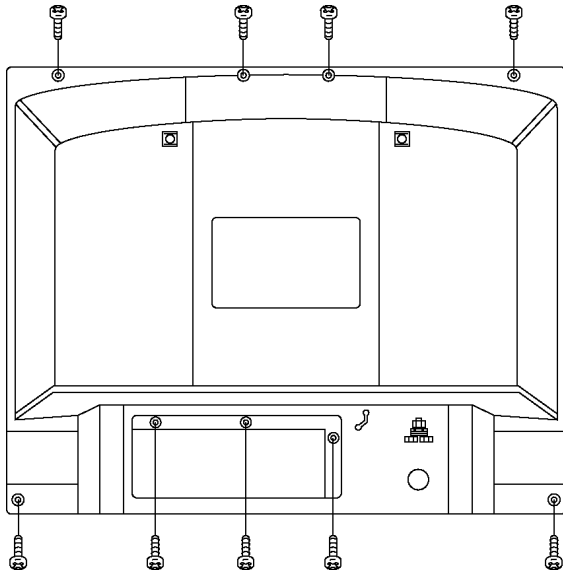

Fig. 1.
1. Remove the 9 screws as shown in Fig. 1.